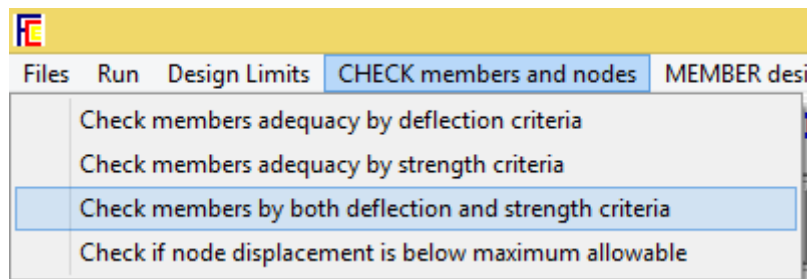

Figure 85
**Step 2:** Go to menu 'Check members and nodes' then select 'Check members by both deflection and strength criteria' (see Figure 85). If all members are safe then proceed to **Step 3** otherwise edit the section properties and repeat **Step 1**.